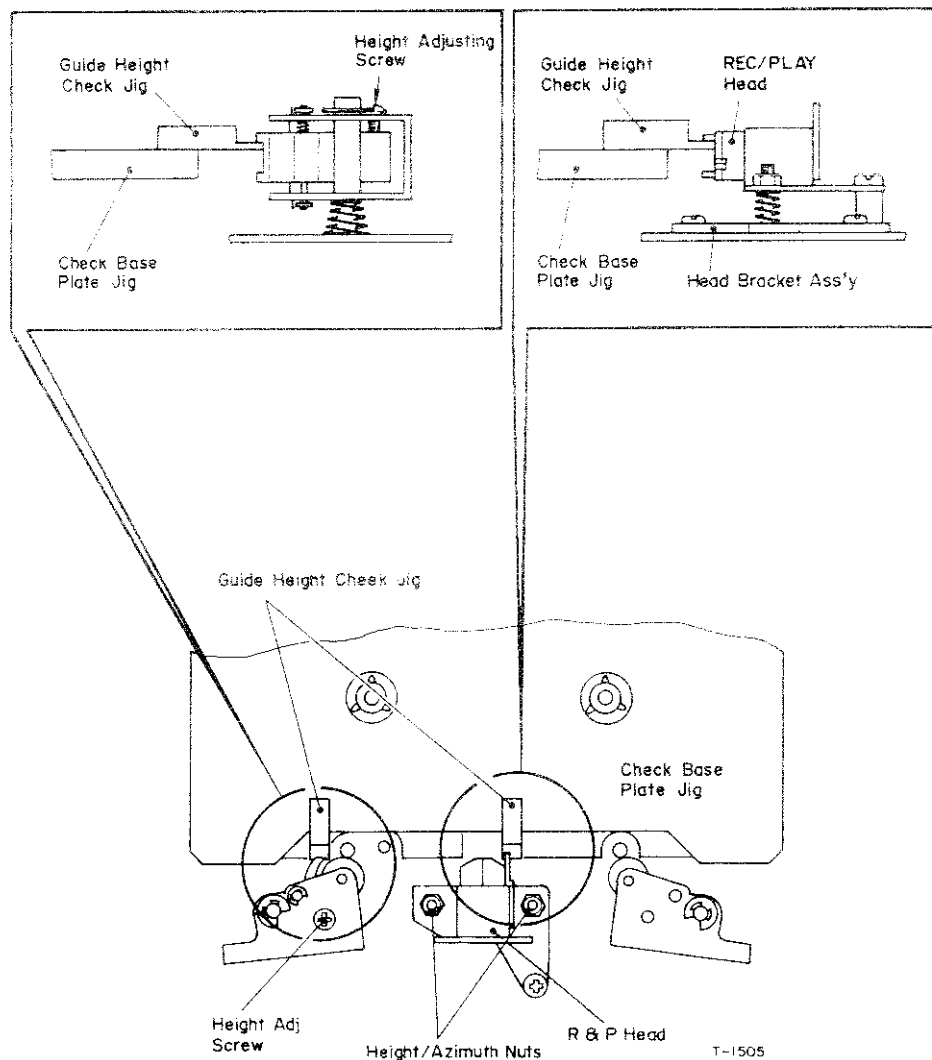

Fig. 5-11 Adjusting Height of Pinch Roller Guide and REC & PLAY Head
2. Attach the tip of the guide height check jig, resting the check base plate jig under the pinch roller guide (as illustrated in Fig. 5-11) keeping a reasonable distance from the capstan shaft in order not to scratch the shaft.
5. Carefully adjust the two height/azimuth nuts until the tip of the jig just fits under the tape guide of the head as shown in Fig. 5-11.
4. If there is tape curling at the tape guide of the REC and PLAY head or/and the pinch roller guide, adjust the height of the tape guide of the head by slightly turning the height azimuth nut near the guide (see item 5-11, Fig. 5-11).